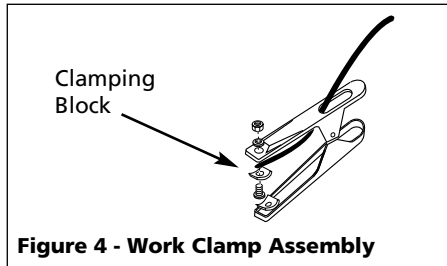

Figure 4 - Work Clamp Assembly
2. Insert cord through clamp handle and slide bare wire under the clamp block. Tighten hex nut making sure bare wire is clamped securely (Figure 4).